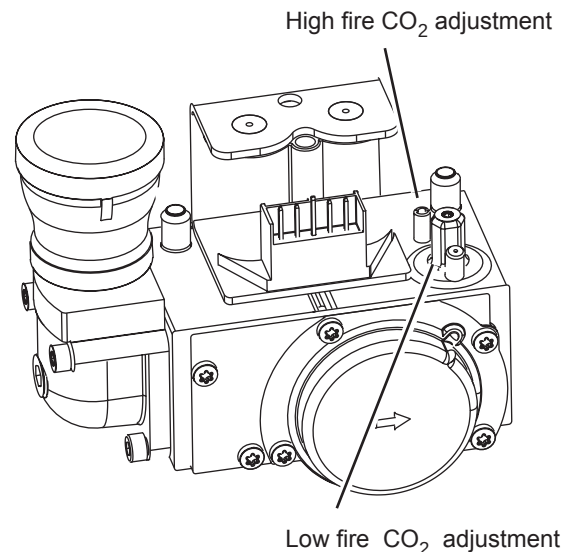

Fig. C3-1 - High- and low-fire adjustments on gas valve
The CO₂ readings should be between the values shown in Table C3-1. If the CO₂ is not within the correct range, adjust the high fire setting. See Fig. C3-1 to locate the high fire adjuster screw. Slowly make adjustments (1/16 of a turn at a time) until the CO₂ is within the range shown in the table. For the high fire adjustment, turning the screw counter-clockwise (CCW) makes the mixture richer.
Again, the CO₂ readings should be between the values shown in Table C3-1. See Fig. C3-1 to locate the low fire adjuster screw for your unit. For the low fire adjustment, turning the screw clockwise (CW) makes the mixture richer.